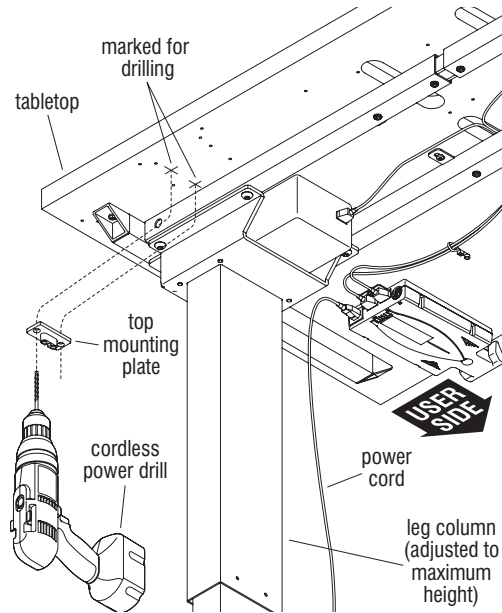

Figure 1
1. Position the top mounting plate underneath the back, non-user side of the tabletop at the desired location. Assume that the power cord can be routed easily to the mounting plate and to a power source (Figure 1).
2. Using the top mounting plate as a template underneath the table, align the unit straight, and $\frac{1}{4}$ " back from the table edge, then mark the two mounting hole locations and move the plate away (Figure 1).
3. Carefully bore a $\frac{3}{32}$ " pilot hole at the center of each marked location, underneath the tabletop using a cordless power drill. Take care to not drill too deep, piercing the table top (Figure 1).